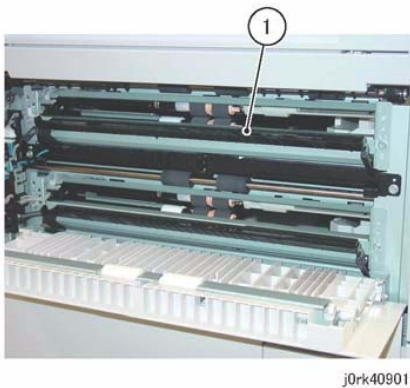

Figure 1 Feed Out Chute Removal
5. Remove the Feed Out Chute. (Figure 1)